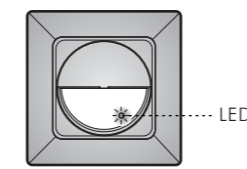

FIG. 18
- 4.4.1.1 The LED of OS-471D is equipped inside of the lens (See FIG. 18).